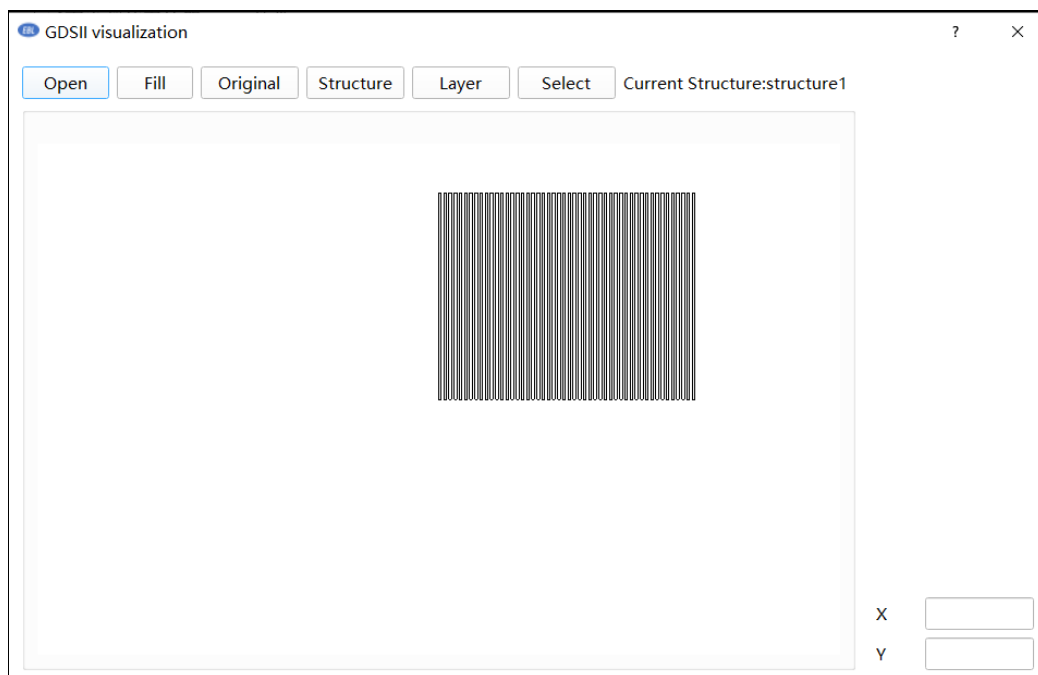

Figure 3.8.1 Open gds file
- 1) You need to open a gds file and click “Select” (Figure 3.8.1).